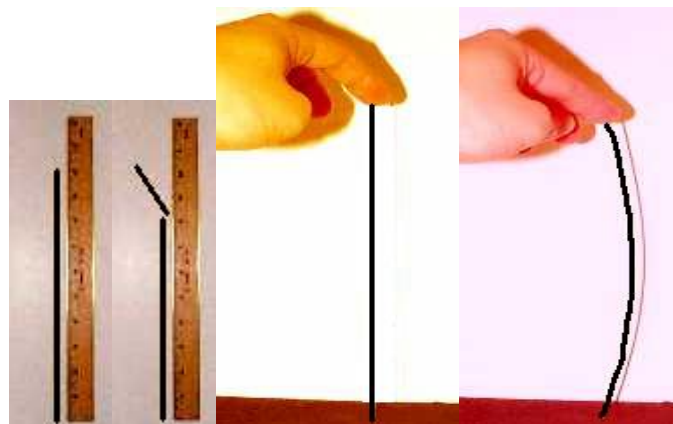

Figure 2. Compression Test
2. To test the specimens, place them upright on the scale and push down as shown in Figure 2 (using pliers may be easier on your hands). Record the force (in grams) required to bend the specimen. Convert the grams to lbs in EXCEL.